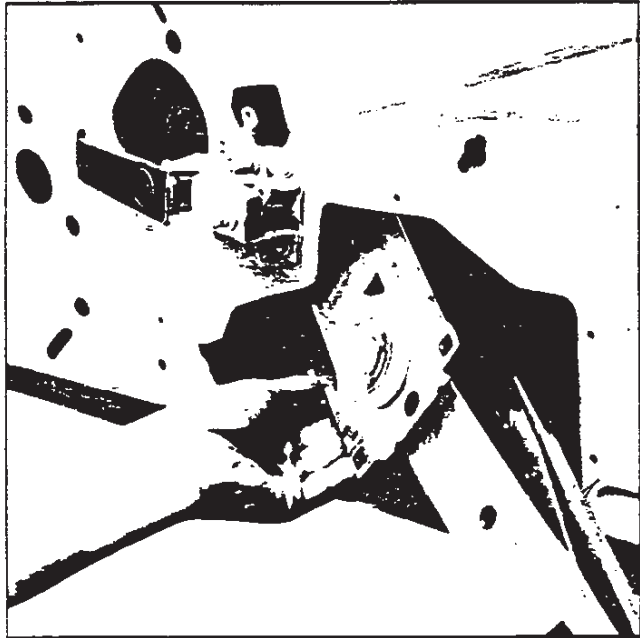

Fig. 33—Removing Window Regulator
3. Remove two (2) sash bolt and nut assemblies retaining window glass.
4. Remove two (2) screws securing stationary horizontal channel.
5. Remove window crank housing by removing three (3) screws.
7. Remove two (2) screws located adjacent to spring opening retaining regulator.
11. While depressing front channel outward, slide regulator assembly forward and rearward to remove through access hole as shown in Figure 33.